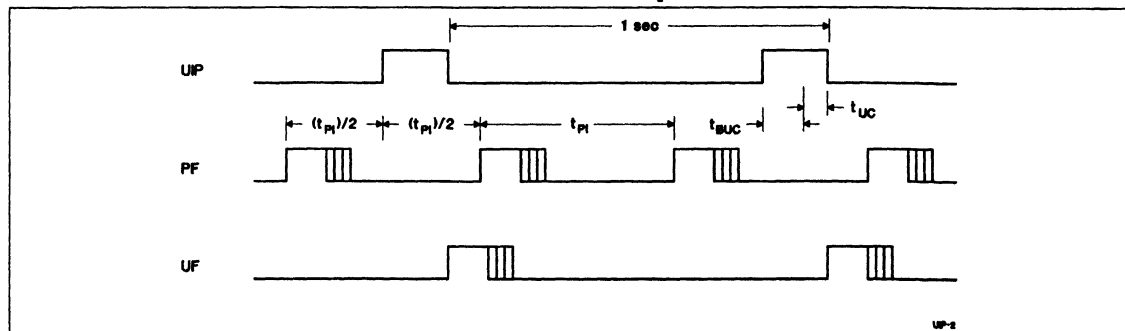

Figure 3. Update-Ended/Periodic Interrupt Relationship
- Enable the update interrupt event to generate interrupt requests at the end of the update cycle. The interrupt handler has a maximum of 999ms to access the clock bytes before the next update cycle begins (see Figure 3).
- Poll the update-in-progress bit (UIP) in register A. If UIP = 0, the polling routine has a minimum of tBUc time to access the clock bytes (see Figure 3).
- Use the periodic interrupt event to generate interrupt requests every tPI time, such that UIP = 1 always occurs between the periodic interrupts. The interrupt handler has a minimum of tPI/2 + tBUc time to access the clock bytes (see Figure 3).